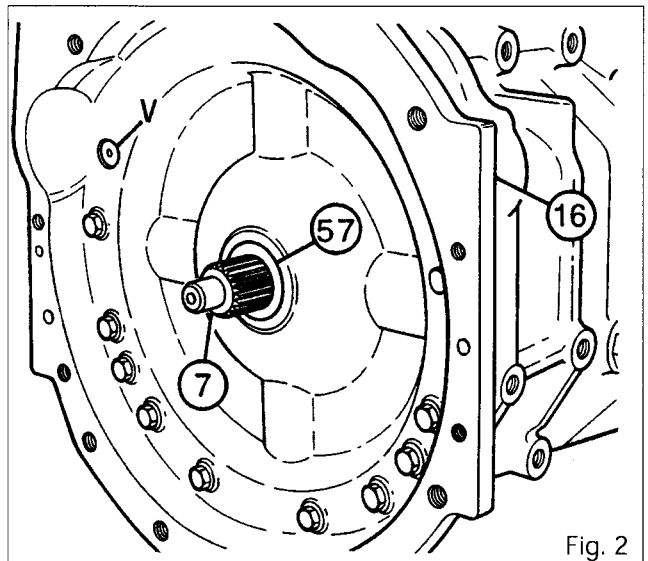

Fig. 2
Note : The countersunk head of bolt "V" must be correctly positioned (Fig. 2).
B. Removing and refitting the seal (Fig. 2)**Removal**